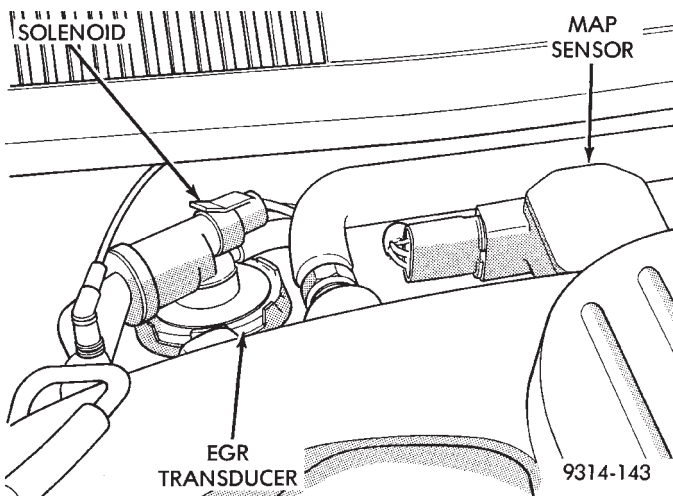

Fig. 16 EGR Transducer
(6) Disconnect electrical connectors from solenoid on EGR valve transducer and MAP sensor (Fig. 16).
(7) Disconnect hose from PCV valve at rear of intake manifold plenum. Disconnect brake booster